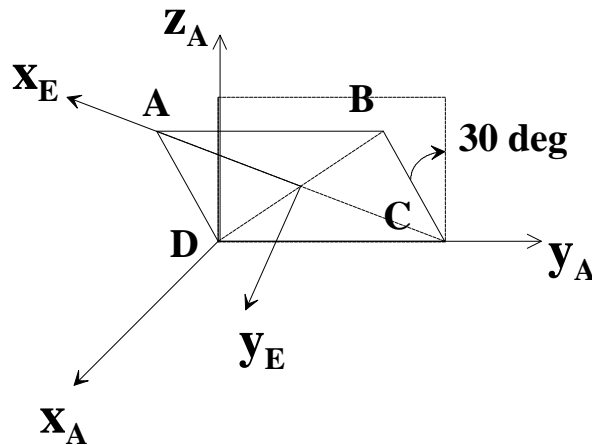
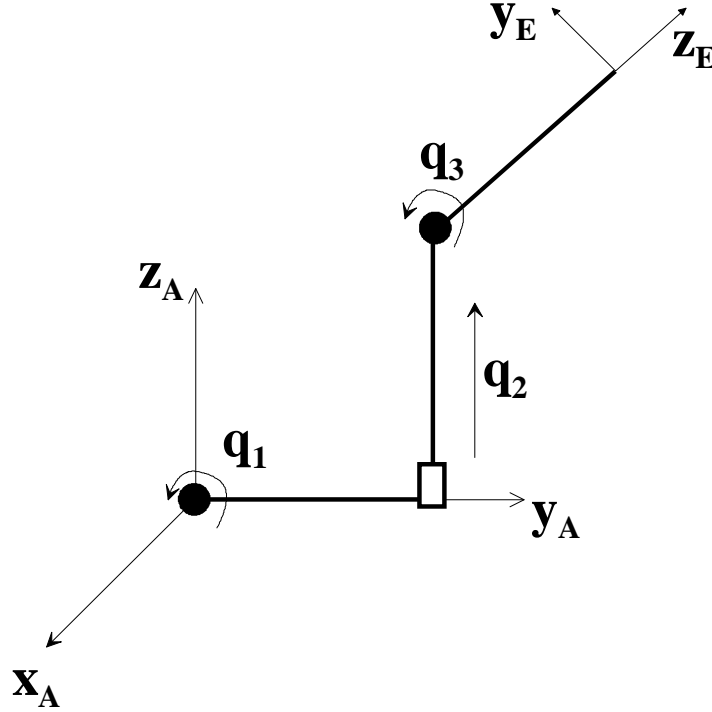

Fig. 1
Fig. 2
1. ABCD is a rectangle whose surface is at an angle of 30° with respect to the yz plane of Frame A (Fig.1). Frame E is attached to the rectangle as shown with the origin of Frame E at the geometric center of the rectangle. The x axis of Frame E is directed towards Corner A of the rectangle and the y axis is on the plane of the rectangle as shown in the figure. The rectangle has a width (AB) of 2 m and a height (BC) of 1.5 m.
2. A robot has three joints: the 1st joint is rotational, the 2nd is translational, and the 3rd joint is rotational (Fig. 2). The robot operates in a plane parallel to the yz plane of Frame A. The axes of motion of the first and third joints are parallel to the x axis of the base frame. The axis of motion of the second link is on the yz plane of Frame A. The first and last link have lengths of 1 m each, and the middle link can extend from a minimum length of 0 m to a maximum of 1 m. At the configuration shown in Fig. 1, $q_1 = 0^\circ$, $q_2 = 0.75$ m, and $q_3 = 45^\circ$ (with respect to the positive y_A axis). The positive directions of motion are indicated in Fig. 2 (arrows).
- Assign frames according to the Denavit-Hartenberg (DH) convention and fill in the table of DH parameters. Indicate which of the parameters are variable. (10 marks)
- Derive expressions for the position and orientation of the end-effector (Frame E) in Frame A as functions of q_1 , q_2 , and q_3 (in Fig. 1). Note that q_1 , q_2 , and q_3 may not necessarily coincide with the corresponding joint coordinate of the DH parameters, i.e., they may have different zero positions; and that the base (0) frame need not coincide with Frame A. (15 marks)